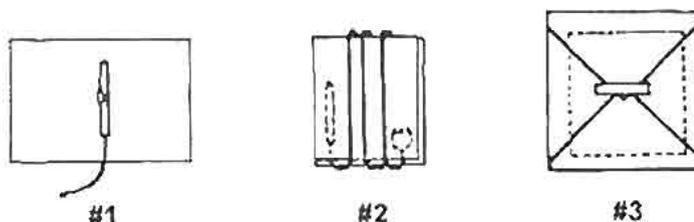

Figure 2-18. Wrapping sequence.
- (1) Lay the handswitching pencil in the center of the wrapping material as illustrated in figure 2-18.